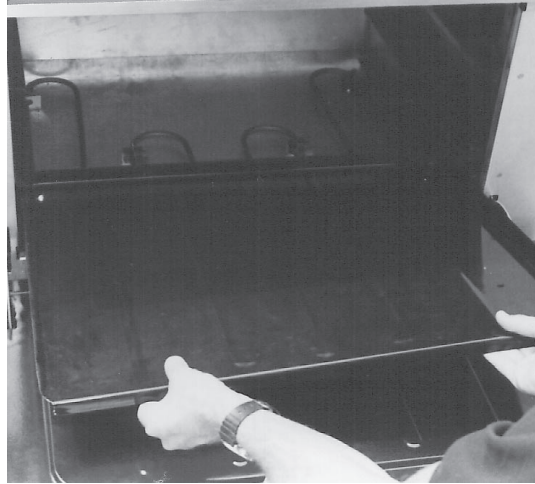

Fig. 35
3. Lift oven bottom tray up and out of the appliance. (Fig. 35)